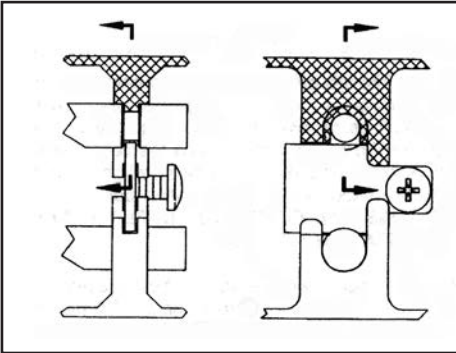

Figure 2.
**STEP 4.** Place the cables in the correct slots in the control, put the cable clamp lock plate (9) in position, turn the screw (10) fully home to lock the plate in position. Check that the plate is locked. See Figure 2.